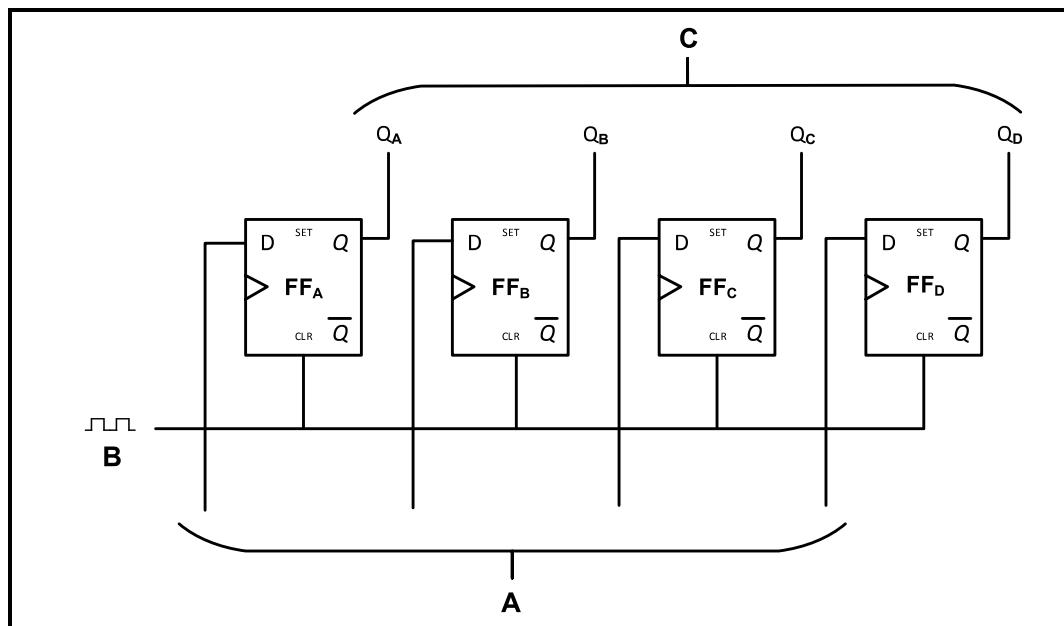

FIGURE 5.11
5.11 Refer to FIGURE 5.11 below and answer the questions that follow.
5.11.1 Identify the register in FIGURE 5.11. (1)